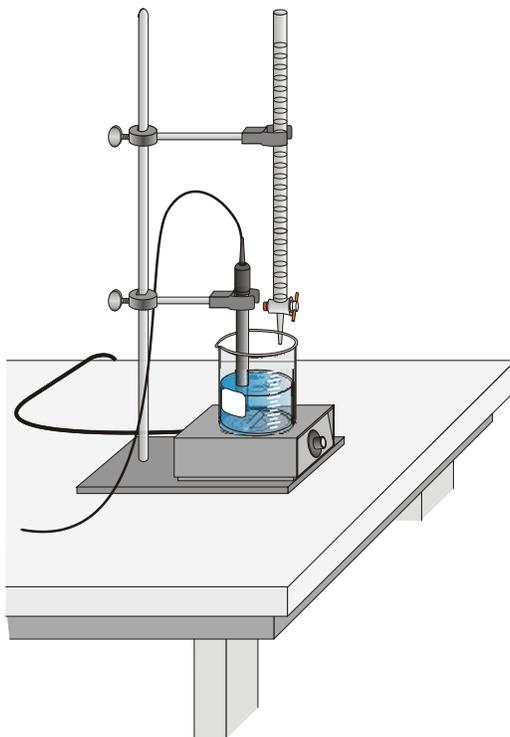

Figure 2
4. Use a utility clamp to suspend a pH Sensor on a ring stand as shown in Figure 2. Position the pH electrode in the diprotic acid solution and adjust its position toward the outside of the beaker so that it is not struck by the stirring bar.
5. Obtain a 50 mL buret and rinse the buret with a few mL of the ~ 0.1 M NaOH solution. Use a utility clamp to attach the buret to the ring stand as shown in Figure 2. Fill the buret a little above the 0.00 mL level of the buret. Drain a small amount of NaOH solution so it fills the buret tip *and* leaves the NaOH at the 0.00 mL level of the buret. Dispose of the waste solution in this step as directed by your teacher. **CAUTION:** *Sodium hydroxide solution is caustic. Avoid spilling it on your skin or clothing.*